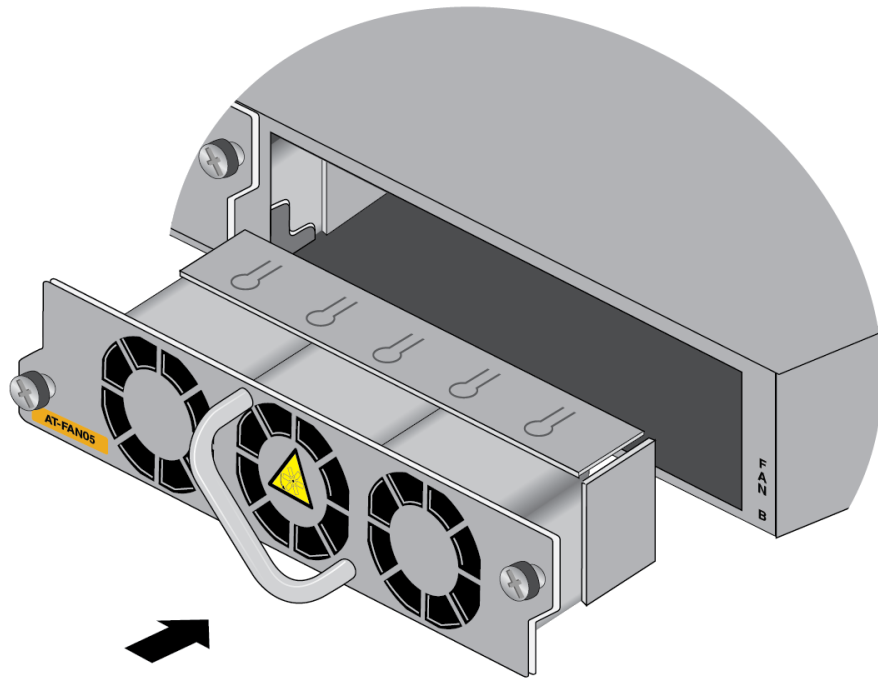

Figure 143. Aligning the FAN05 Module in the Switch Slot
2. Align the fan module in the slot. Refer to Figure 143 on page 200.